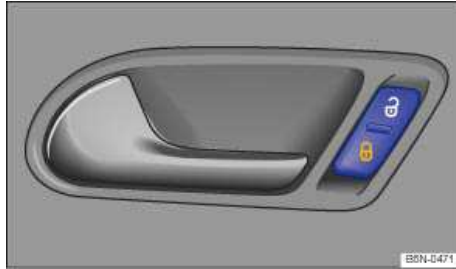

Fig. 28 On all 4 doors: Power locking button.
The vehicle will lock automatically when it reaches a speed of about 10 mph (15 km/h). When the vehicle is locked, the indicator light  lights up in the power locking button ⇒ fig. 28.
All doors automatically unlock when you switch off the ignition and open a door from inside the vehicle. On vehicles with automatic transmission, the doors will also unlock when the selector lever is in Park (**P**) or the ignition is switched off. Auto unlock works only if the vehicle has been automatically locked with the Auto lock feature. The indicator light  goes out in the power locking button when the doors unlock ⇒ fig. 28.
Press button ⇒ fig. 28:
- The yellow indicator light 🔒 in the power locking button lights up ⇒ fig. 28 to indicate that all doors and the rear hatch are locked.